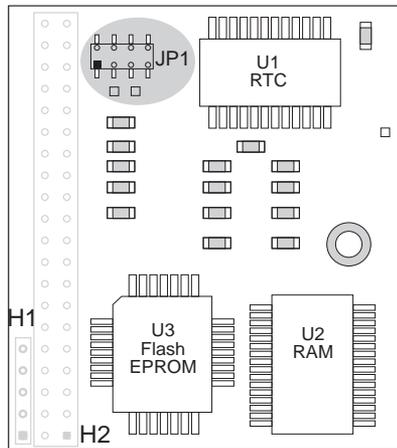

Figure 4-4. CM7200 Core Module
2. The bottom side of the **CONTROLLER** SIB port on the power/program module, J4/J5, plugs into header JP1 of the CM7200 core module (see Figure 4-4). The bottom side of the **DISPLAY** SIB port on the power/program module, J3/J6, plugs into header J19 on the I/O conversion module (J19 is located just above the core module cutout). Carefully unplug JP4/J5 and J3/J6 from JP1 (core module) and J19 (I/O conversion module).